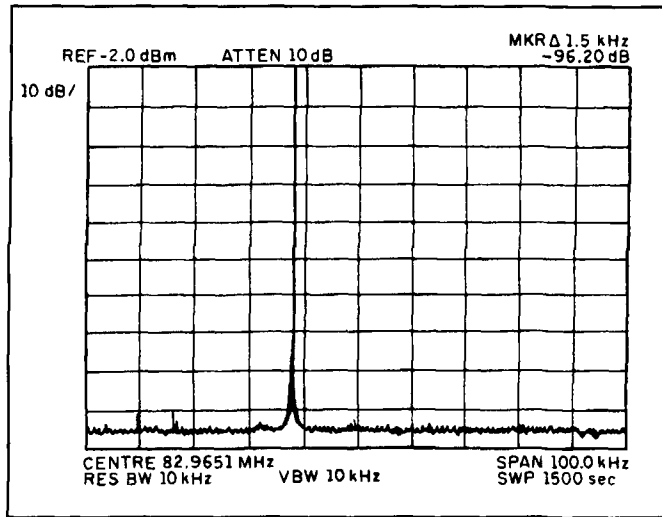
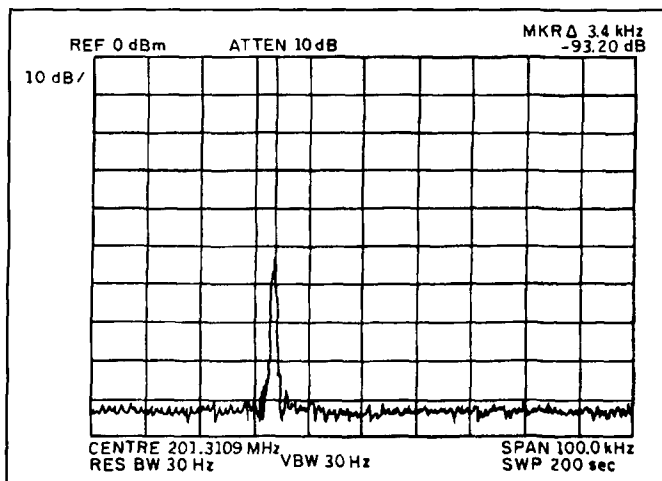

Figure 5. Spectra of stripline oscillator at 82.9 MHz.
Figure 6. Spectra of stripline oscillator at 201 MHz.
“Typical free-running spectra of the original oscillator at 76 MHz are shown in **Figure 2**, about 98 dB down at 2 kHz. Contrast this with the superior stripline circuit (**Figures 3 and 4**) at 82.9 MHz (**Figure 5**) and 201 MHz (**Figure 6**). Most of the close-in phase noise noted in a run at 62 MHz is due to FM at 50 kHz. This is presumably due to AC mains inducing fields in the tank coil causing low-level AM and FM modulation of the FET. In a closed loop of any useful bandwidth, these would be suppressed.
Figure 5. Three high-stability oscillator circuits showing the minor, but significant, differences between: (A) Gouriet-Clapp with series resonance; (B) Seiler low-C Colpitt's oscillator with parallel resonance. (C) The Vackar oscillator in which the ratios $C2:CV$ and $C1:Cx$ should both be about 1:6.
Figure 6. W3JHR's "synthetic rock" popular transistor VFO of the early 1960s was an adaptation of the Seiler oscillator. In the original design, W3JHR used high-quality components from the American surplus ARC5 equipment. Transistors were 2N384, but similar later devices can be used.
The Gouriet-Clapp, the Vackar (Tesla), and W8PK's Seiler oscillators (Figure 5) were analyzed by J.K. Clapp in *Proceedings of the IRE*, August 1954. ("Frequency Stable LC Oscillators") suggesting that the good frequency stability range of the Vackar extends over a tuning range of 2.5:1 compared with 1.8:1 for the Seiler and 1.2:1 for the Gouriet-Clapp, thus awarding the edge (at least for receiver applications) to the Vackar. In March 1955, Tesla submitted a report on the Vackar oscillator to the
In September 1966 in a reply to E. Chicken, G3BIK, I drew attention to the differences between the Seiler and Vackar designs. A Seiler-type oscillator using a bipolar transistor was designed by W3JHR in the early 1960s and became popular as the “synthetic rock VFO” shown in **Figure 6**.